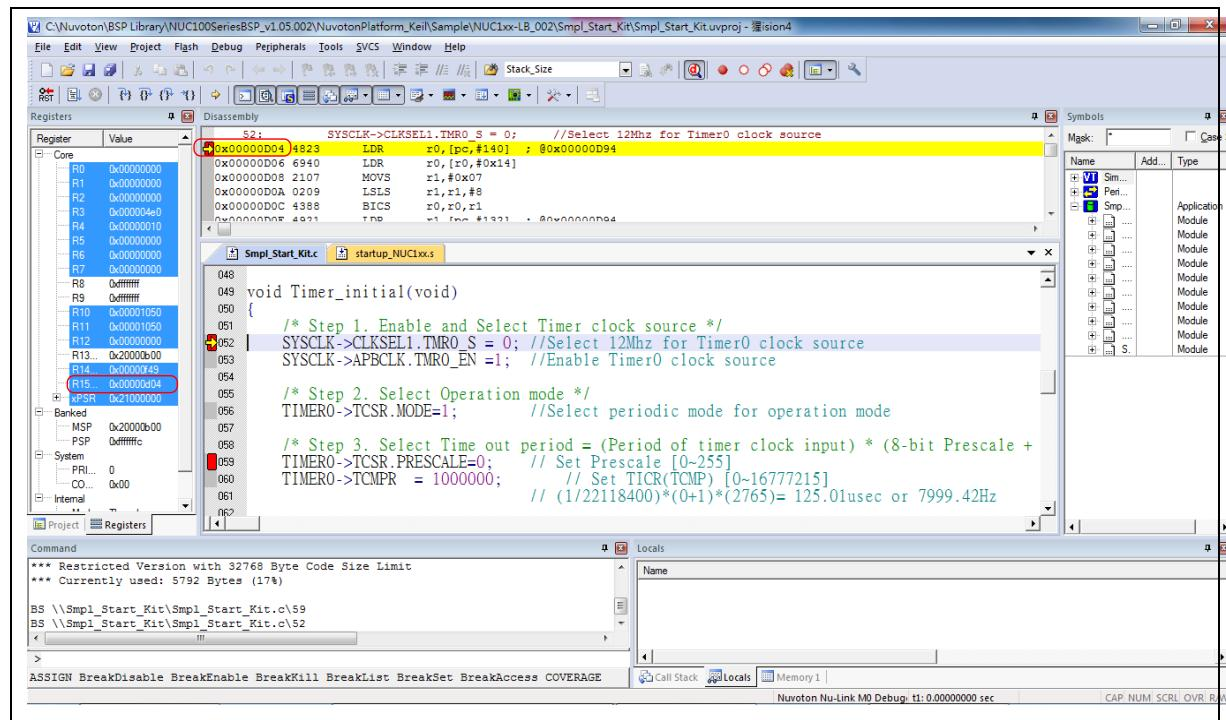

Figure 4.1-1 Setting Breakpoints in Keil MDK Debug Mode
In Debug mode, the user can add breakpoints in the code for debugging. During the real-time simulation of the Nu-Link2-Pro, the chip simulation will be stopped at a specific breakpoint. Figure 4.1-1 shows the breakpoint settings in Keil MDK Debug mode. The red labels on lines 052 and 059 indicate the breakpoints inserted; the yellow arrow refers to the code to be executed next and shows the register value of Program Counter (PC) (i.e. “R15(PC)=0x00000D04” in the Registers pane in Figure 4.1-1).